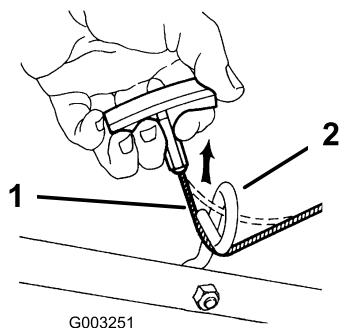

Figure 7
1. Handle bracket (2)
6. Pull the starter rope through the rope guide on the handle (Figure 7).